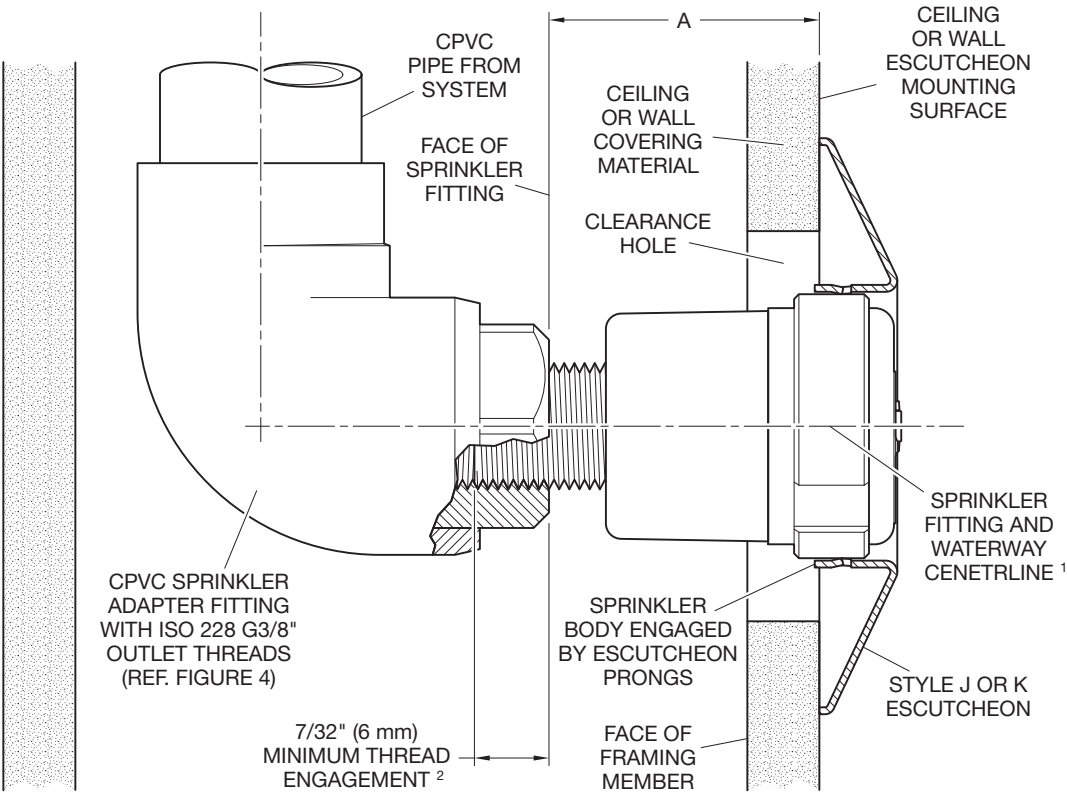

**FIGURE 5**
**Step 2.** Install sprinkler fitting with face located at proper distance from escutcheon mounting surface (Ref. Figures 5 or 6, Dim. A).